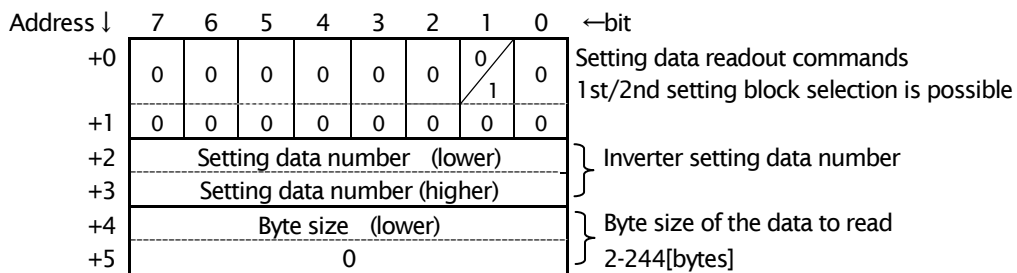

Figure 3.14 Data composition of the master station data writein demand SDU (setting data readout command)
- 1) Master station transmits the data write-in demand shown in figure 3.14 to OPCN66-Z, and directs readout of setting data, and the number of top setting data, and the total byte size of the data to read. Both of the setting data, 1st / 2nd setting block, can be read. Since all data sizes are 1 word (2 bytes), the byte size of data serves as even number. In the case of odd number, a part for 1 byte of the last data is disregarded. 122 words data can be read at the maximum at once. At this time, byte size directions of 2nd word are set to 244 [bytes].